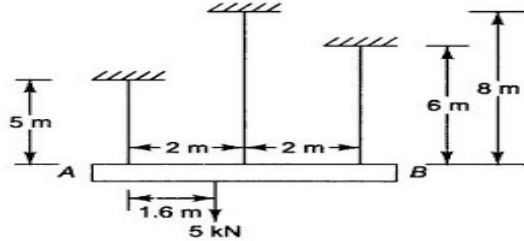

Fig. 3
3. (a) Three wires of the same material and cross-section support a rigid bar which further supports a weight of 5 kN as shown in Fig. 3. The length of the wires is 5 m, 8 m and 6 m in order. The spacing between the wires is 2 m and weight acts at 1.6 m from the first wire. Determine the load carried by each wire.